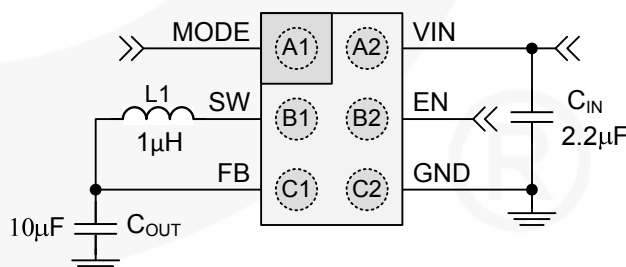

Figure 1. Typical Application
**Table 1. Recommended Components for Circuit in Figure 1**
Minimum and maximum values are at  $V_{IN} = V_{EN} = 2.7V$  to  $5.5V$ ,  $V_{MODE} = 0V$  (AUTO Mode),  $T_A = -40^{\circ}C$  to  $+85^{\circ}C$ ; circuit of Figure 1, unless otherwise noted. Typical values are at  $T_A = 25^{\circ}C$ ,  $V_{IN} = V_{EN} = 3.6V$ ,  $V_{MODE} = 0V$ ,  $C_{OUT} = 10\mu F$ .